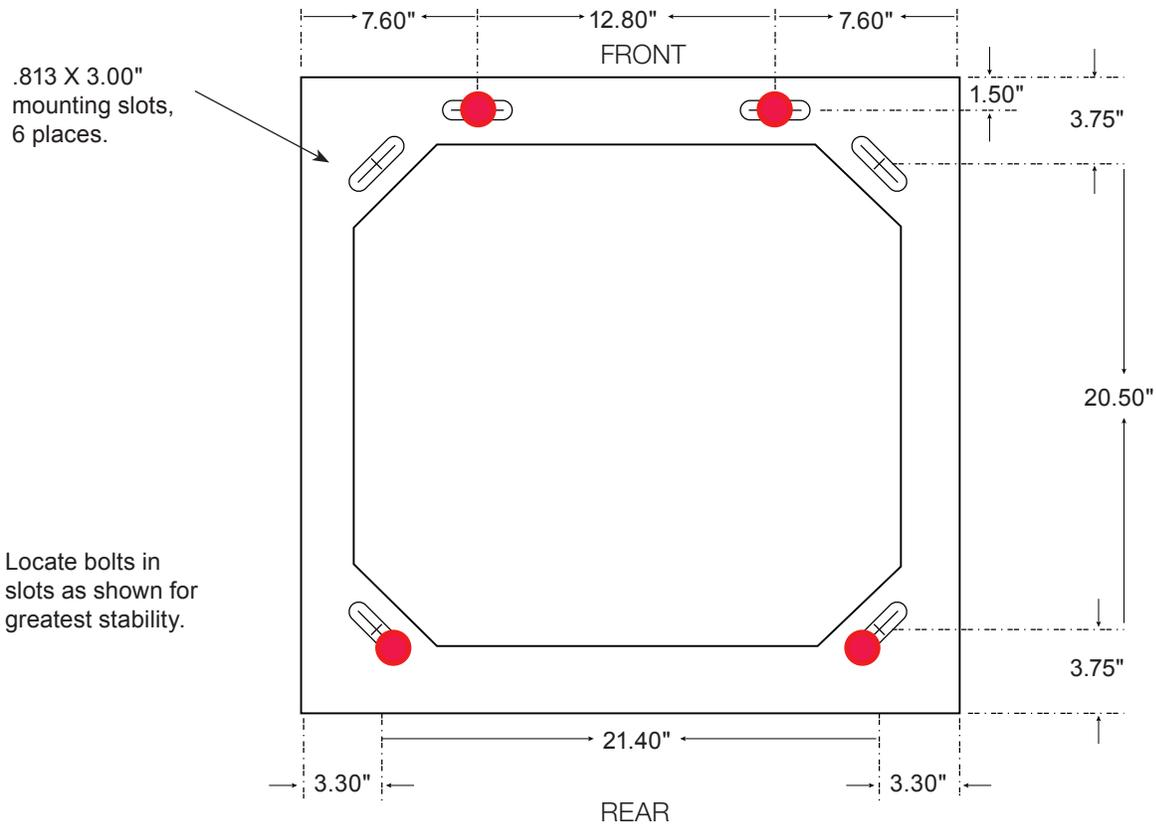

Figure 28 — Base Dimensions and Mounting Holes
Figure 28 shows the dimensions and bolt locations of a single bay. An anchoring kit is provided with hardware for the slots as well as the four additional bolt holes required for seismic.
3. Refer to Figure 28 and mark the anchor hole positions. This diagram also shows the preferred location for the anchor holes within the slots.